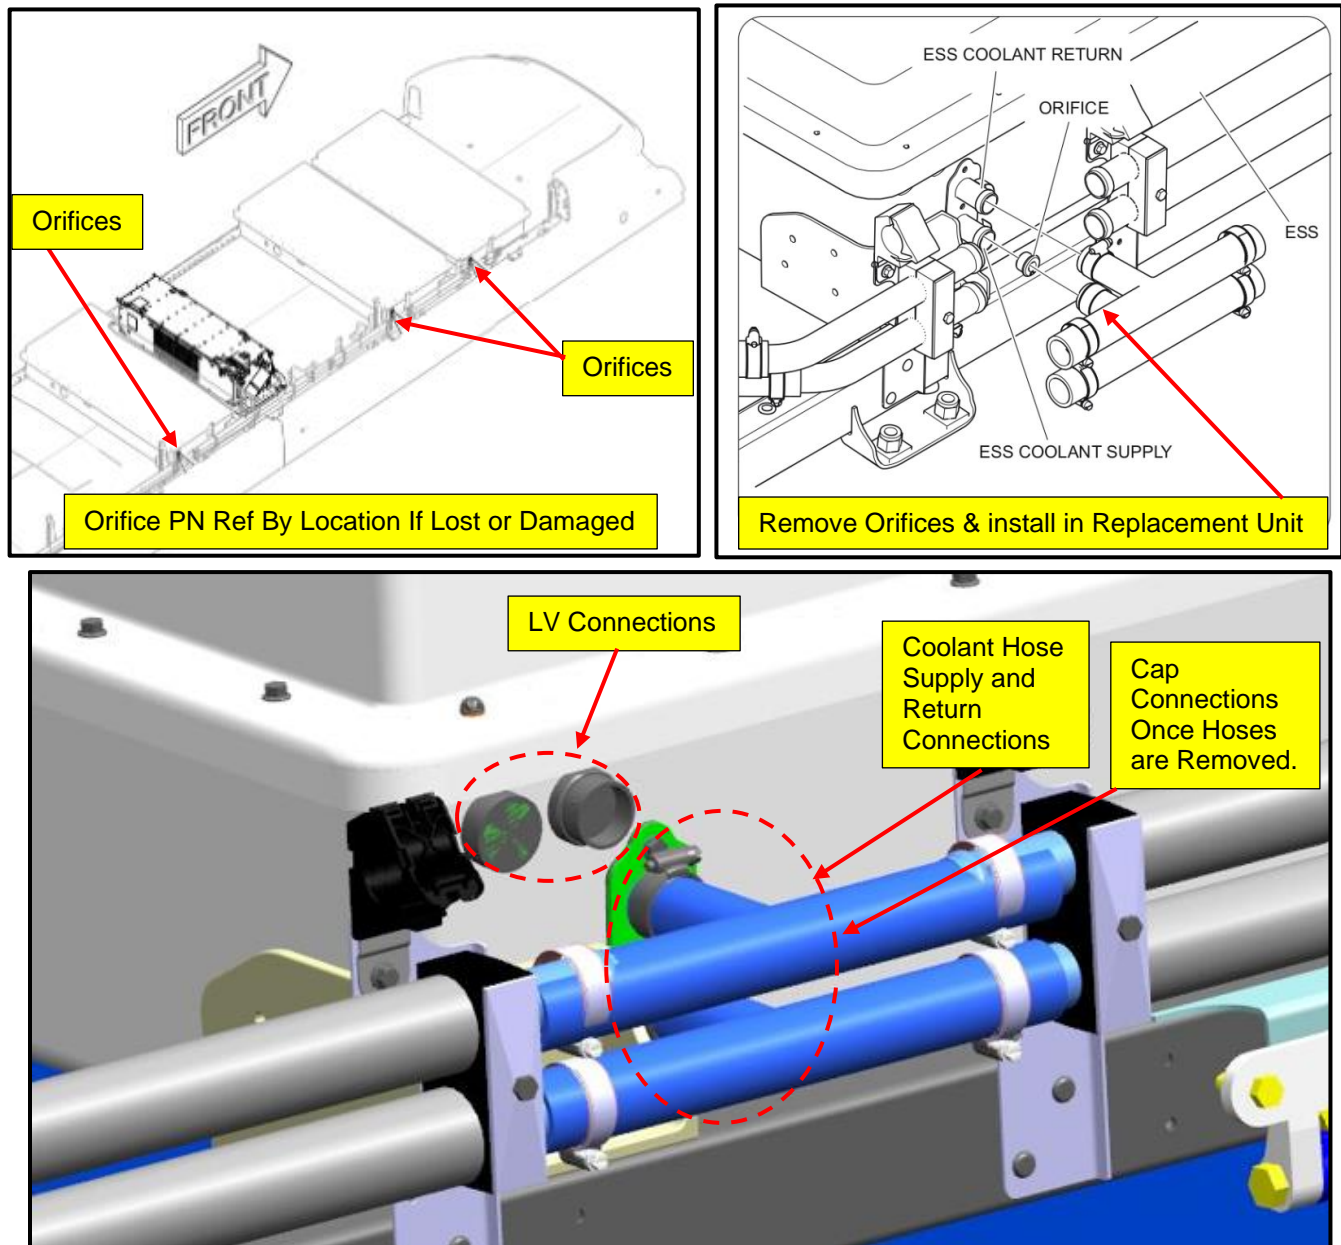

Figure 4A: Upper ESS Coolant Line Removal and Upper ESS Assembly Lifting Device Location Reference.
19. Locate the coolant line supply and return hose connections at each ESS. Loosen the coolant hose clamps and disconnect the hoses from each ESS unit. Set clamps aside for re-installation. Install coolant line caps on the ends of each fitting. See Figure 4A.
20. Each ESS has a specific size restrictor/orifice based on ESS location that needs to be removed and re-installed in the replacement unit. Remove the orifice at each ESS unit located in the inlet line shown below and set aside at each unit location. Re-install the restrictor/orifice in the replacement unit for the same ESS location. See Figure 4A. (Orifices only in upper ESS Units)
21. Disconnect the LV wiring connectors from each ESS unit and secure out of the way for ESS removal. See Figure 4A.